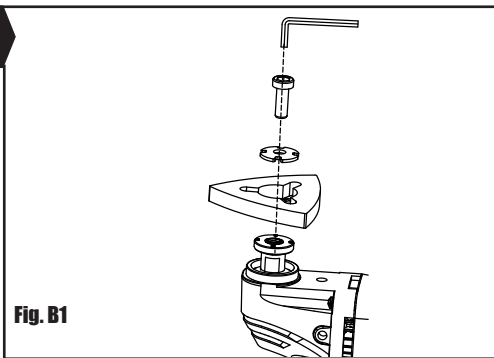

Fig. B1
2. MOUNTING THE SANDING PAPER (SEE FIG. B1, B2)